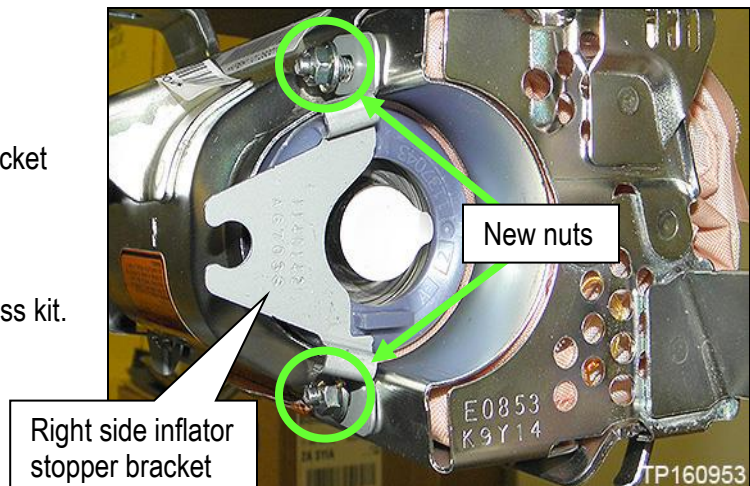

Figure 28
4. Install the new right side inflator stopper bracket (shown in Figure 28) with nuts finger tight.